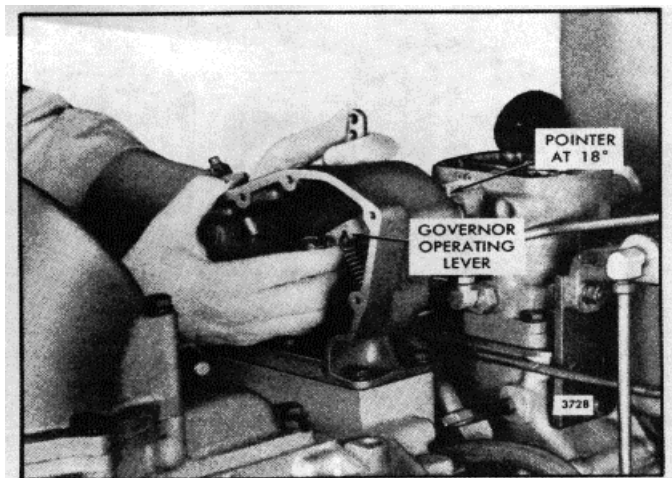

Fig. 6. - Moving Operating Lever
After the zero adjustment is completed, to make sure the shaft is assembled correctly, reach in behind the differential lever in the governor control housing and force the governor operating lever upward until the pointer is aligned exactly with the 18° mark (Fig. 6).
- c. Reach in behind the differential lever in the governor control housing and force the governor operating lever upward until the governor pointer is aligned exactly with the 18° mark (Fig. 6). Hold the lever in this position.